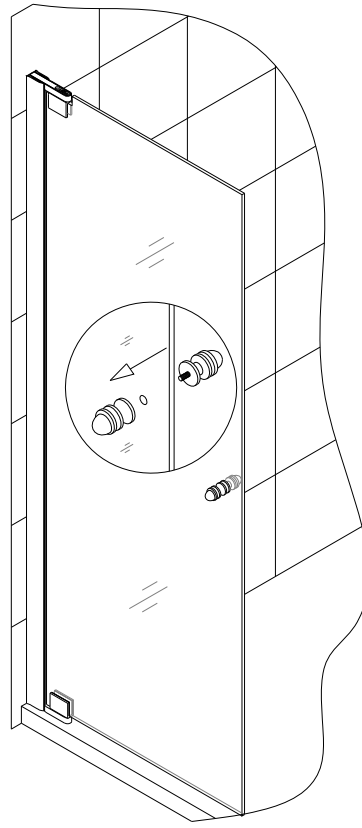

Fig 6
6. Install **Handle (6)** onto the **Glass door (3)**. See Fig 6 for details.